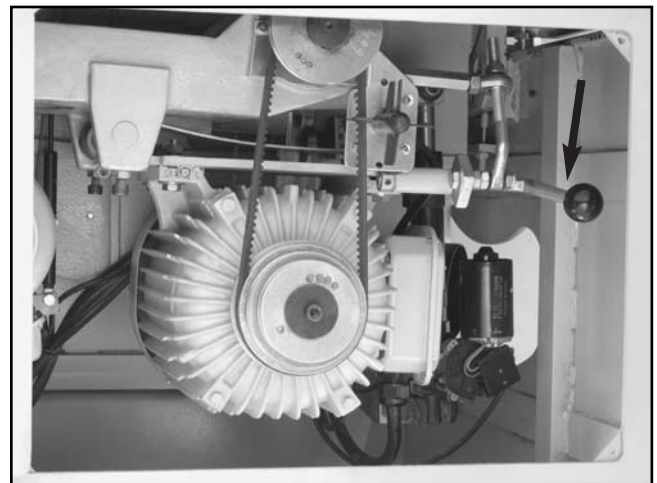

Figure 90. Belt tension handle.
4. Move the belt tension handle (**Figure 90**) down to loosen the V-belt.